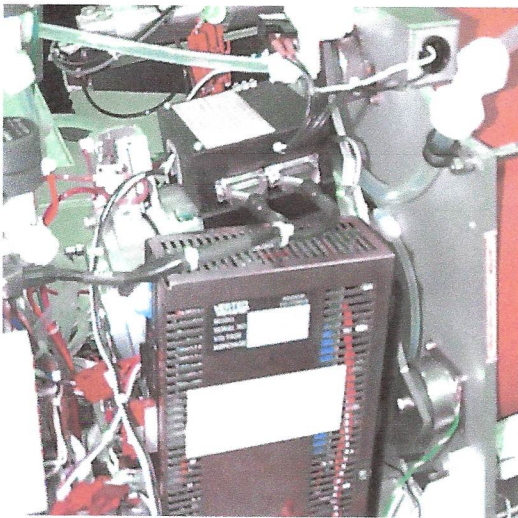

Figure 2
5. Unplug cables/connectors from Automotion Controller (4119839). Figure 2.